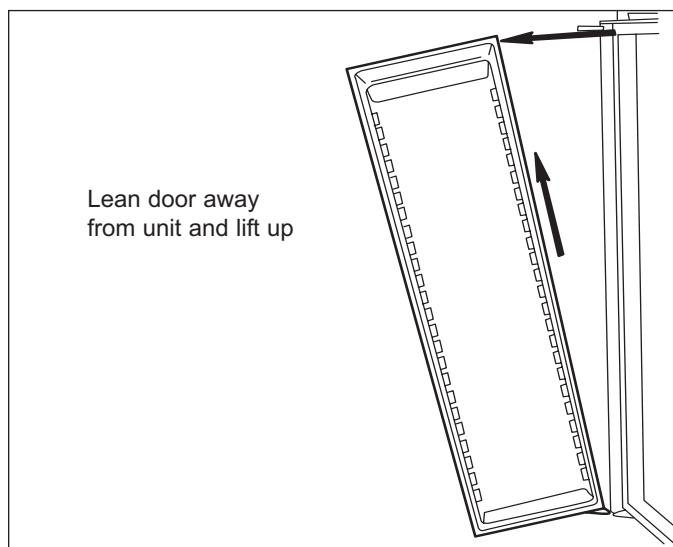

Figure 7-25. Door
**Door Removal** - To remove a door (See Figure 7-25):